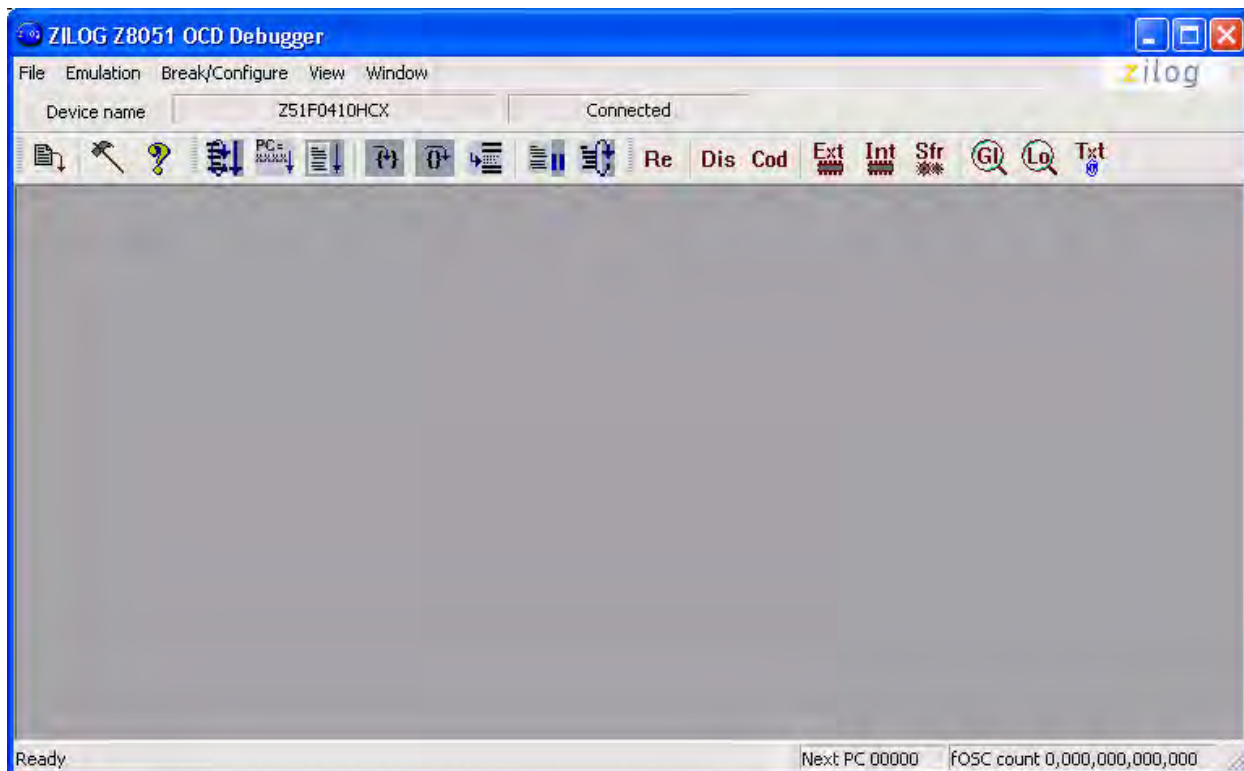

Figure 15. Initial OCD Screen
4. Run the Z8051 OCD software. From the **Start** menu, navigate to **All Programs** → **Zilog Z8051 SW and Docs <version\_number>** → **Zilog Z8051 OCD <version\_number>**. Once launched, the program will display *Connected*, as shown in Figure 15.